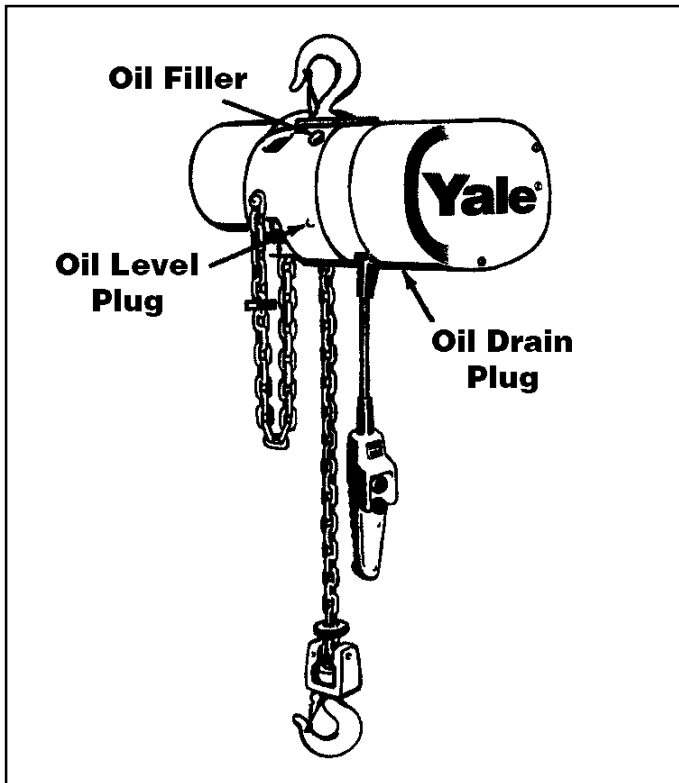

Figure 4-1. Location of Oil Filler and Plugs
4-4. CHANGE GEARCASE OIL (Figure 4-1).
- (1) Check to see that bolts securing motor to frame are tight. Also check for any visible damage to motor, supply head or muffler, such as a cracked or dented housing. Replace damaged parts.
- (2) Check hoist frame for signs of visible damage. If frame shows evidence of fracture, the hoist should be disassembled and inspected for further signs of damage from possible overloading. Replace damaged parts. Also check condition of limit stop.
- e. Check Oil Level. Remove oil level plug (Figure 4-1). If oil level is not even with bottom of tapped hole, add Automatic Transmission Fluid, DEXRON® Type, to bring proper level.